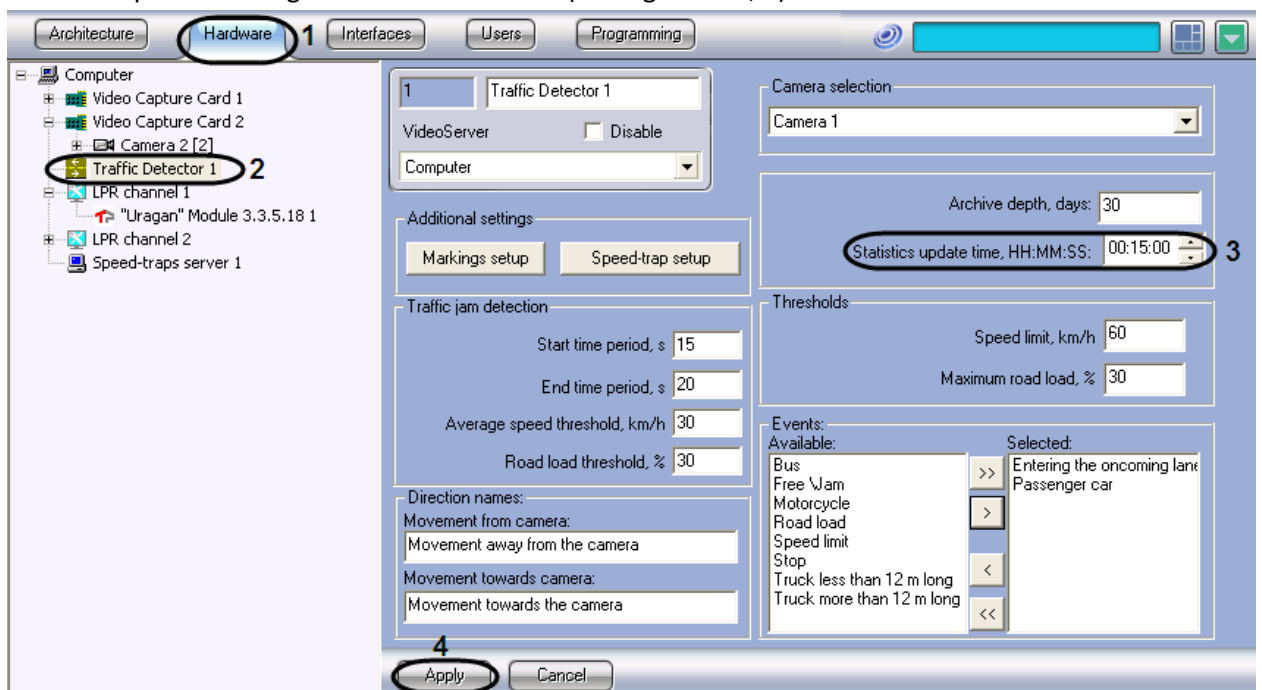

Fig. 7.4—3 Setting up the statistics update period
2. In the object tree on the left side of the Hardware tab, select the Traffic Detector object representing the Traffic Detector module to be set up. The settings panel of the selected object will open on the right side of the window (see Fig. 7.4—3, 2).